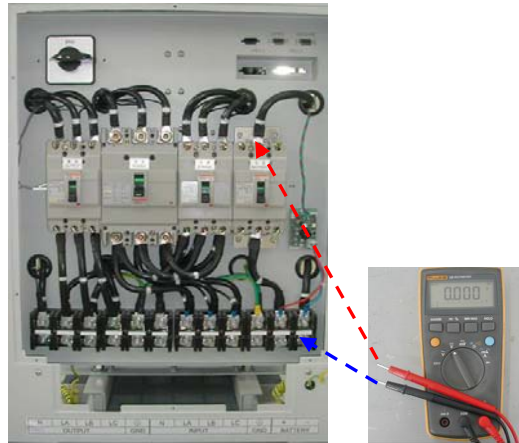

Figure 5-20 Charge voltage test
C. Charge function test: Turn off the battery breaker, test voltage between the UPS battery breaker upper connector and BAT- of the terminal, the value should be $395 \pm 3\text{VDC}$, as shown in figure 5-20.